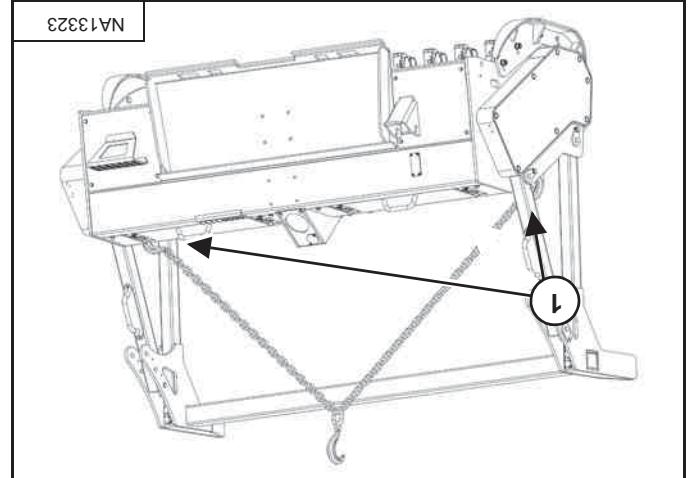

Figure 100
Fasten the chains to the forestry cutter (item 1) [Figure 100] (four positions).